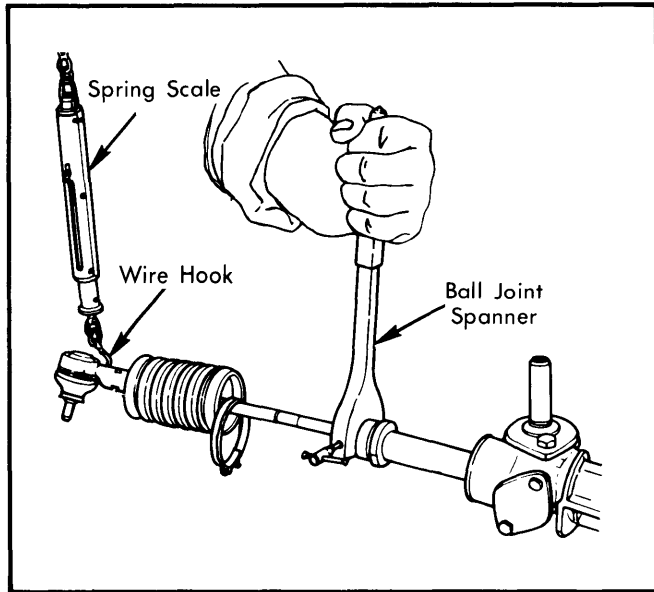

Fig. 2 Checking Tie Rod Effort
3) Grease tie rod ball and seat and assemble on end of rack. Tighten ball seat until effort required to move tie rod is 2.6-5.1 lbs. (1.2-2.3 kg) when measured $\frac{1}{4}$ " (6.0 mm) from end of rod. See Fig. 2.